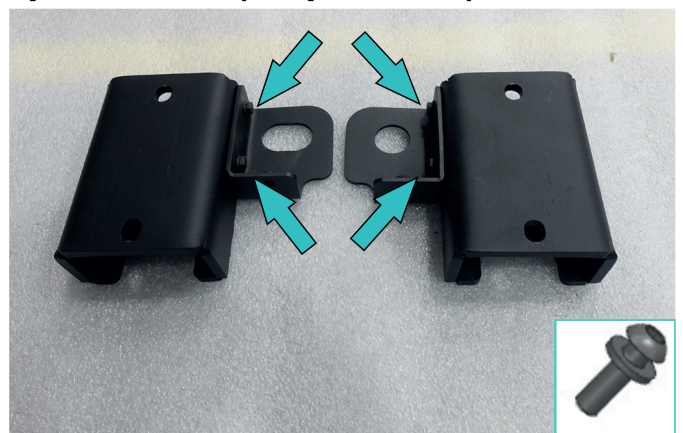

Fig.23
23. Install intercooler brackets (item 23, 24) on recovery point brackets (item 22) and fix them using screw M6x20 and washers 6 (item D, R) (fig.23).